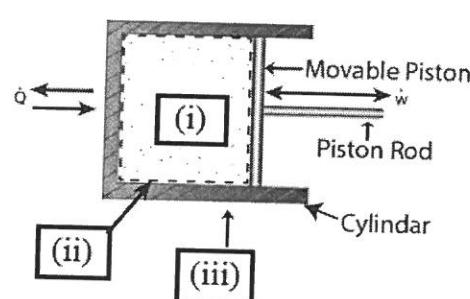

Figure 1(a): Close System / Rajah 1(a): Sistem Tertutup
- (a) Label (i), (ii) and (iii) with suitable terms for the close system as shown in Figure 1(a). Then give the definition of each term.